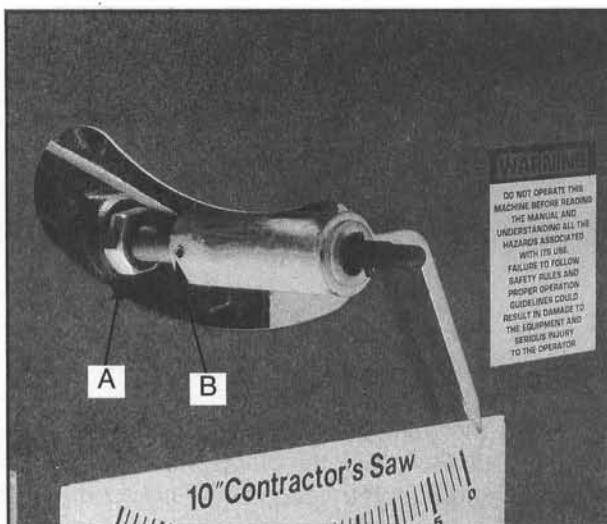

Figure 41.
1. Loosen the lock nut (A) shown in **Figure 41**. This will allow the eccentric sleeve that surrounds the worm gear to turn. *Although this process can be done with the handwheel in place, you may find it easier to remove it first.*